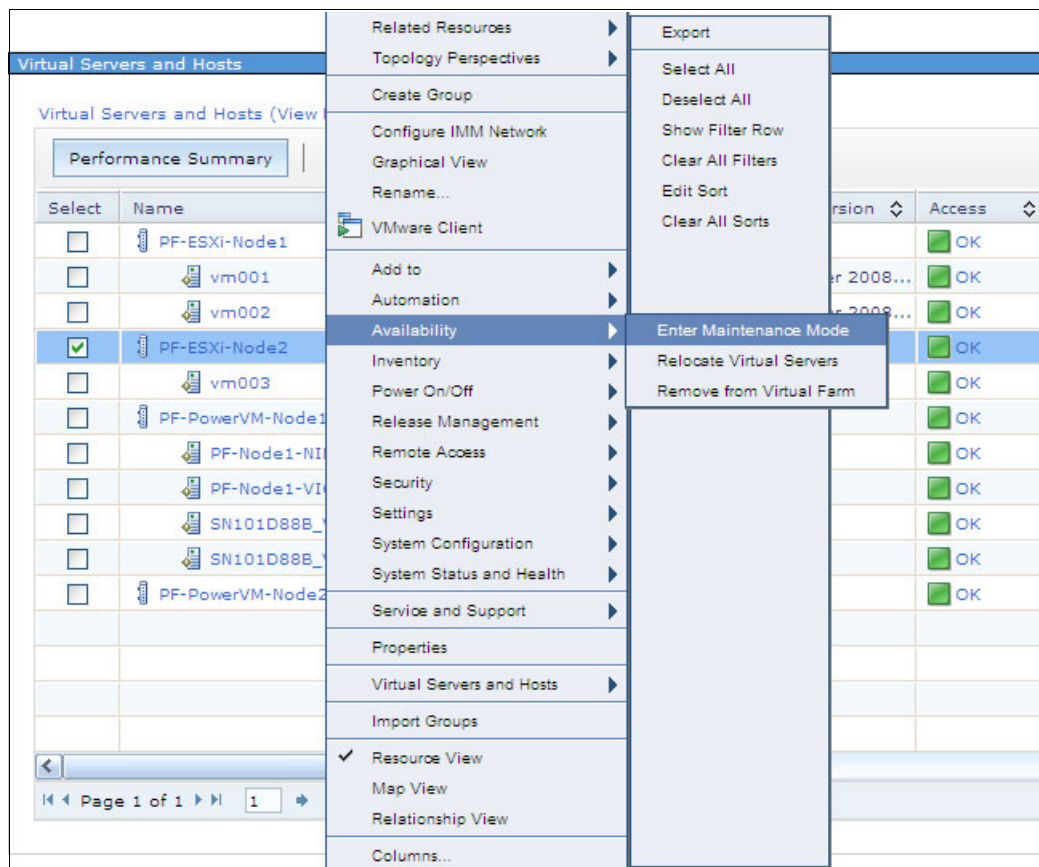

Figure 11-55 Enter Maintenance Mode menu item in Virtual Servers and Hosts window
1. Open the Virtual Servers and Hosts window and select **PF-ESXi-Node2**. Select **Actions** → **Availability** → **Enter Maintenance Mode**, as shown in Figure 11-55.